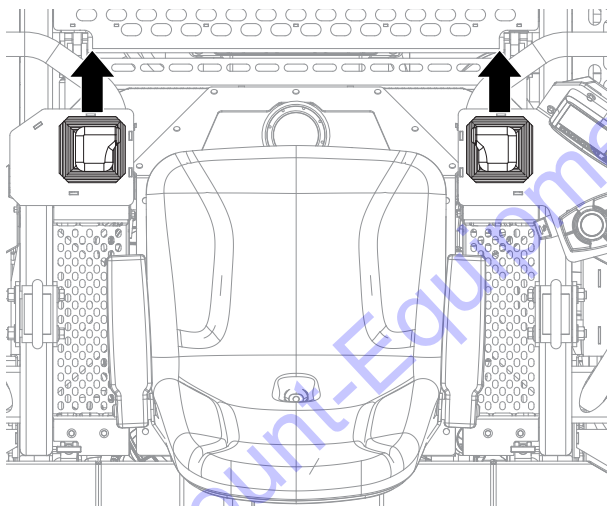

Figure 43. Joysticks (Forward)
1. Push both the left and right joysticks forward (Figure 43).